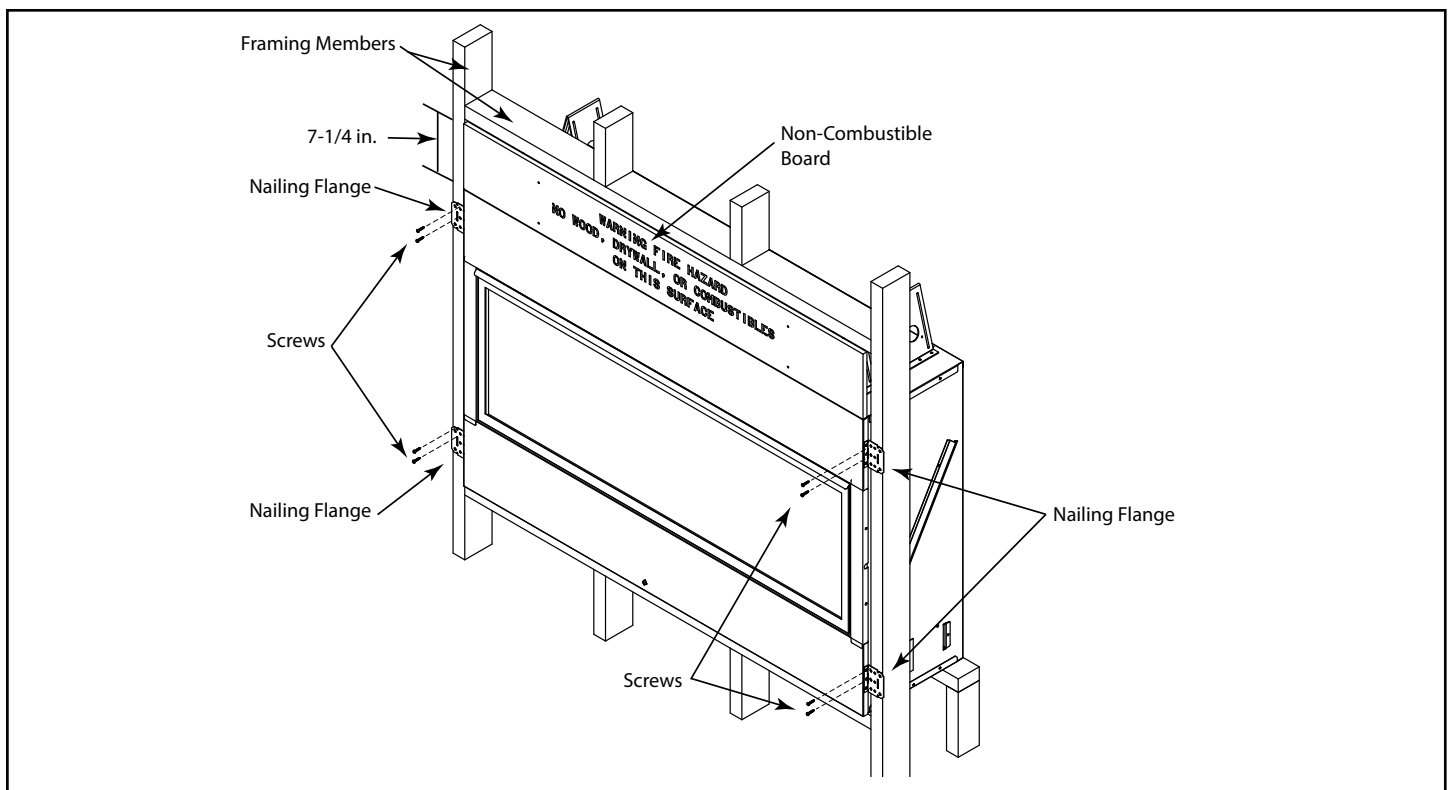

Figure 4.2 - Securing Appliance to Framing
- Keep nailing tabs flush with the framing. See Figure 4.2.
The left and right nailing tabs were designed as a means to ensure the appliance is mounted flush with the framing materials. See Figures 4.2 and 4.3.